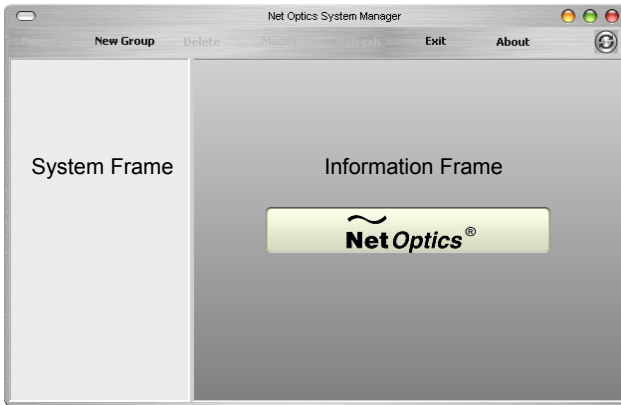

Figure 26: Initial window
1. Double click the System Manager icon on your PC desktop. The initial window, shown in Figure 26, will not show any iTaps.